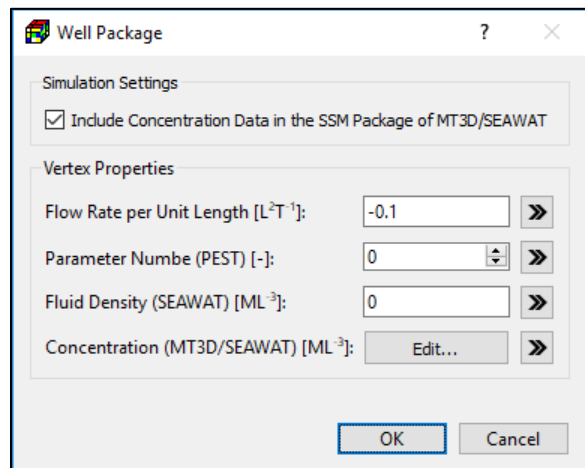

Figure 94. The Well Package dialog box for specifying vertex properties
3. **Polyline input method:** Figure 94 shows the dialog box for specify the following data to one or more vertices of a polyline. These vertex data can then be